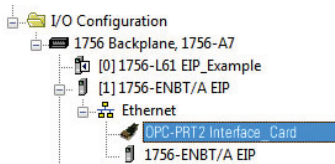

Figure 49: AOP Interface Card I/O Configuration
- 14) You should now see the interface card in the 1756-ENBT/A branch under the I/O Configuration in the controller organizer view. The full I/O Configuration tree should appear similar to Figure 49.